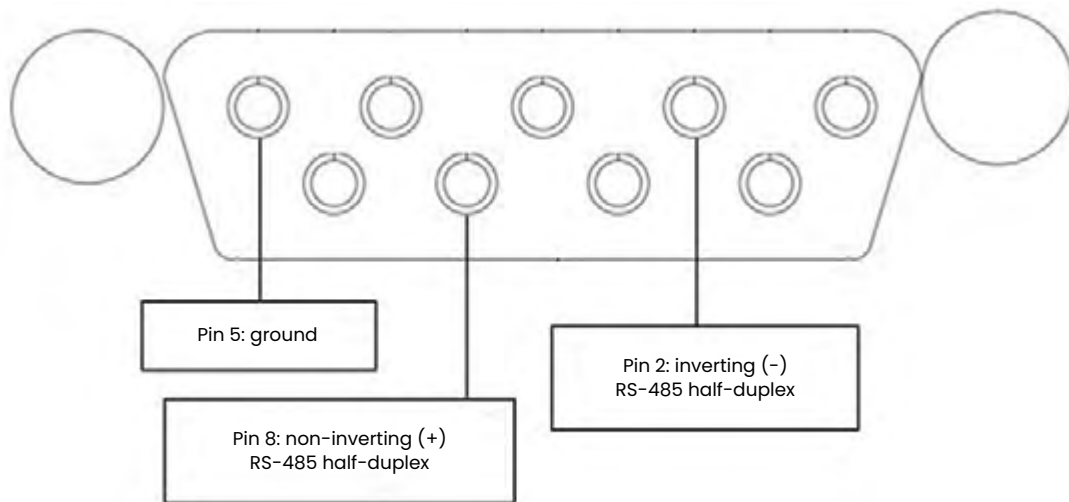

Figure 84: RS-485 wiring
3. Plug the USB flash drive (with the software update) into the moisture.IQ (see *figure 84* for rack/bench/panel mount, *figure 85* for weather-proof/explosion-proof).